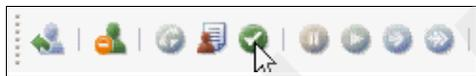

Figure 8-30 CTI set user status to ready
11. Set your status to ready by using the ready button, as shown in Figure 8-30.